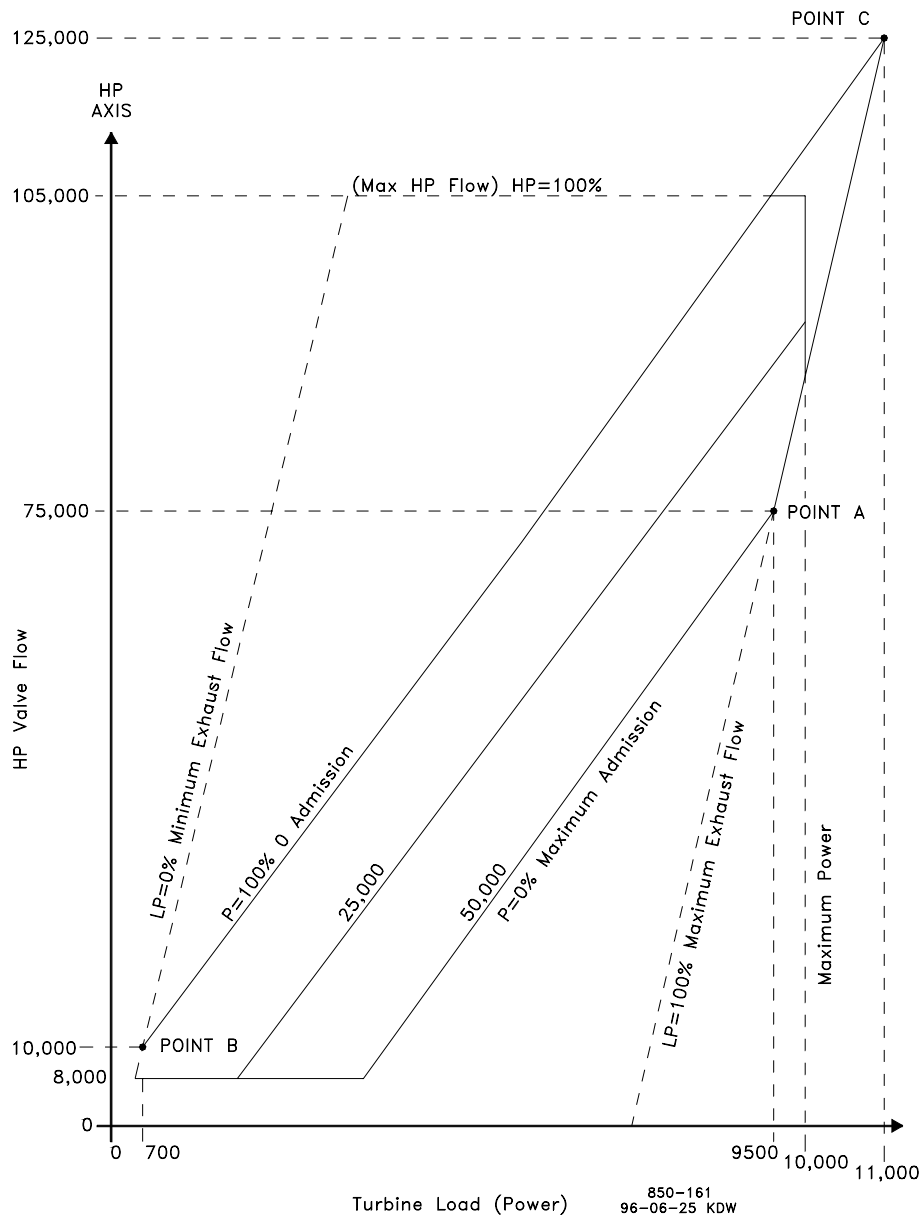

Figure 4-5. Typical Admission Steam Map
Before a turbine’s admission steam map can be programmed into the control, it must have the intersection points A, B, & C (refer to Figure 4-5).
If only point A exists, your map will have to be modified to include points B & C. The LP=0 line will need to be created. To create the LP=0 line you must know the minimum required steam flow through the back-end of the turbine. In our example steam map (Figure 4-5) the minimum required flow was 10 000 lb/h (4536 kg/h).
1. Extend the zero admission (or induction) line ($p=100\%$). Refer to Figure 4-5.
The nine values needed can be taken from the converted steam map. An example has been provided using the steam map in Figure 4-5.